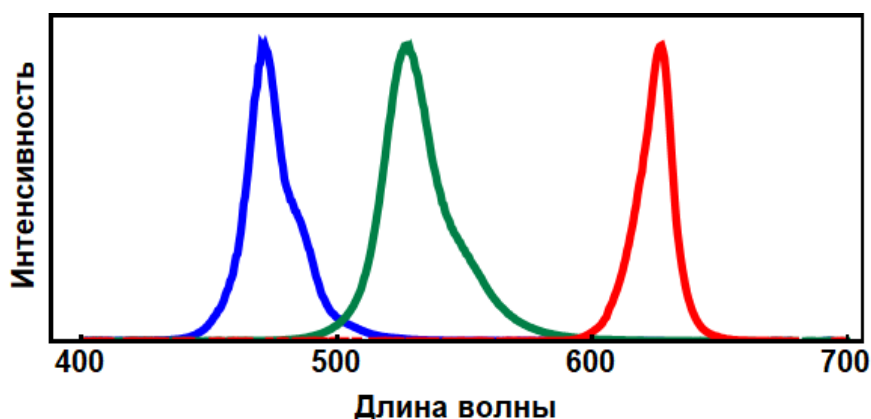

Figure 5: Figure 5.
(17), click the “Get data” button; you should see an LED emission spectrum similar to the one shown in Fig. 5; if the signal is too weak, increase the voltage on the LED (not exceeding 4.5 V) or increase the sensitivity in the program; if the signal is too strong (goes off scale), reduce the voltage on the LED or reduce the sensitivity in the program; determine the position of the maximum (in pixels) and write down this number, next to it indicate the wavelength of the corresponding LED (Fig. 5); without changing the position of the equipment, switch the LED to a different color (replace the black plug with another), determine the position of the maximum; radiation of different colors in an LED is generated in slightly different places in height, and the first diffraction order may shift slightly, this is normal, you don’t have to move the sensor if at least part of each color spot falls on it; repeat the procedure for the third LED; in the appropriate fields in the program, you can enter “pixel number-wavelength” pairs, and the graph will be automatically rebuilt in “intensity (wavelength)” coordinates; You can return the lamp to its place by checking its setting to the zero maximum.